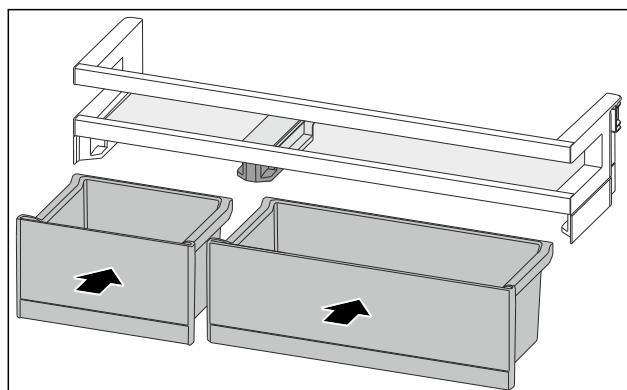

Fig. 225
- ▶ Insert the VarioBoxes in reverse order. (see Fig. 225)